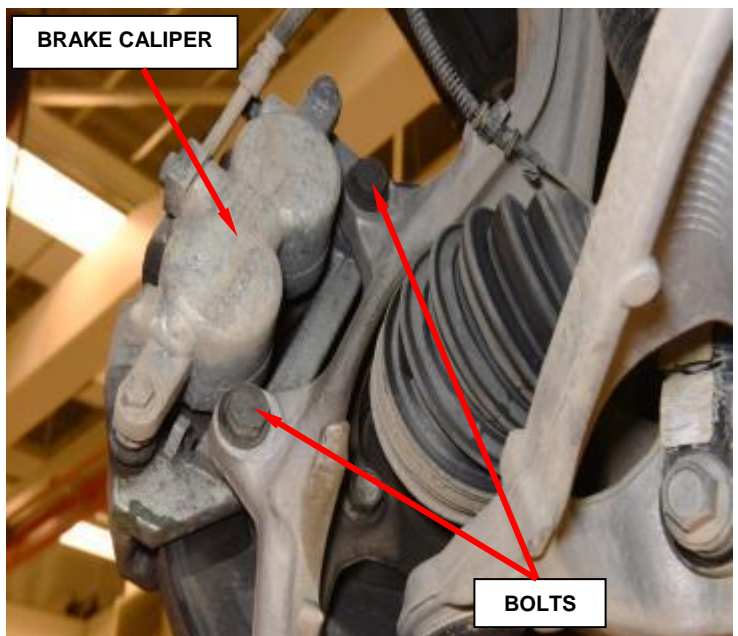

Figure 2 – Caliper Adaptor Bolts
- a. Remove and **discard** the two left side caliper adaptor bolts from the steering knuckle, remove caliper adapter assembly, and hang aside (Figure 2).
14. Align the adapter and caliper to the steering knuckle, install the **NEW** adapter bolts and tighten to 130 ft. lbs. (176 N•m) (Figure 2).